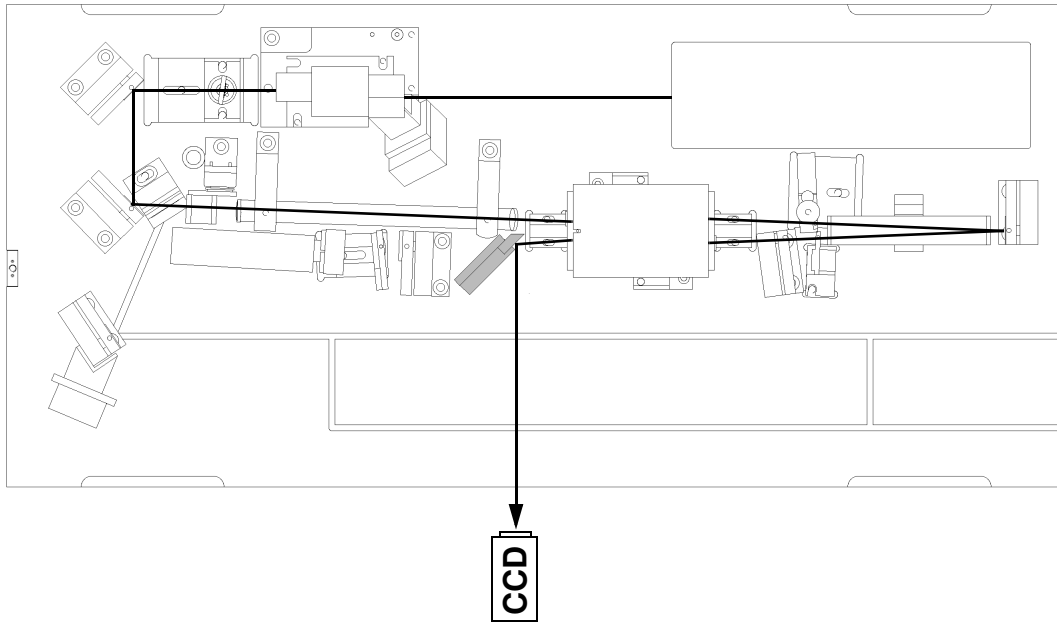

Figure 2.8-1. CCD Camera Set-up for Alignment through Rod #2
1. Position the CCD camera so that it monitors the beam that is reflected off the steering optic, as shown in Figure 2.8-1. If necessary remove the Flash Track photo diode housing first. Put the camera as close as possible to the mirror. Since the beam exiting the rod is highly divergent the diameter will be larger than the CCD chip.